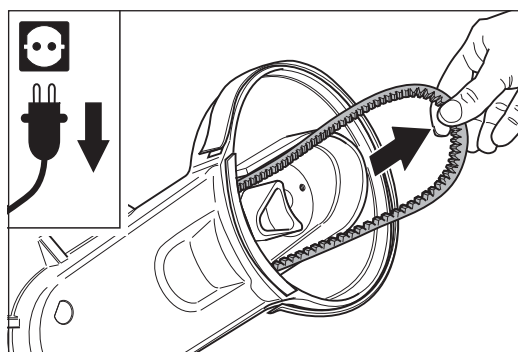

Fig. 70 Pulling the V-belt out of the attachment.
- 9 Pull the worn-out V-belt out of the attachment (fig. 70). Clean the two belt pulleys and the attachment. Wear a respiratory protective mask (at least filter class P2) whenever appropriate.